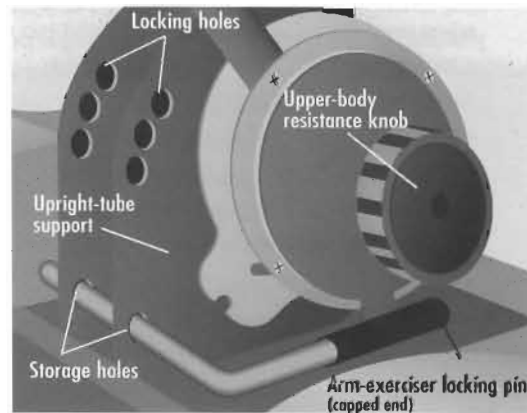

Figure 6
- Insert the arm-exerciser locking pin into the storage holes in the upright-tube support (Figure 6). Be sure the capped end of the pin extends toward the front of the base.